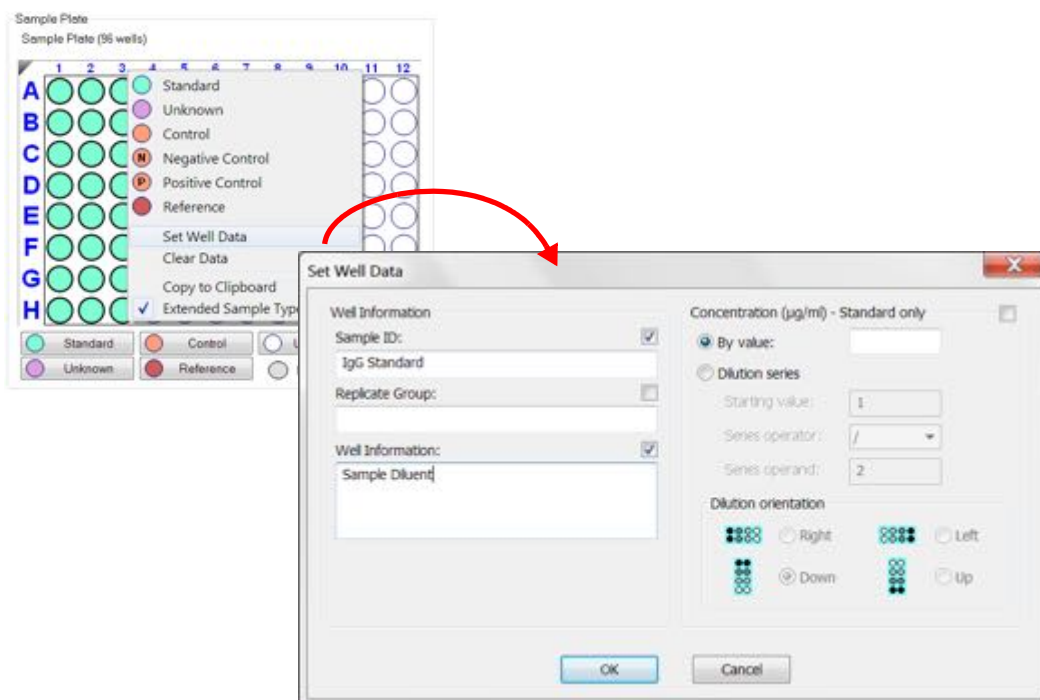

Figure 6-14: Adding Sample Annotations from the Sample Plate Map
2. In the **Set Well Data** dialog box (see Figure 6-14), enter the **Sample ID** and/or **Well Information** and click **OK**.